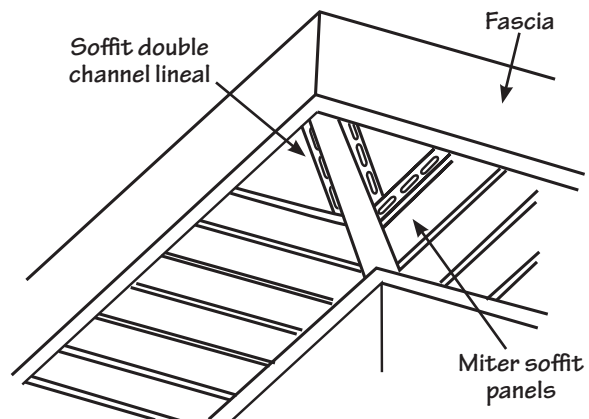

Figure 69.
4. To turn a corner, measure from the channel at the wall corner to the channel at the corner of the fascia board (Fig. 69). Subtract 1/4" (6.4mm) for expansion. Cut and install soffit double channel lineal or back-to-back J-channel. If necessary, install nailing strips to provide backing for the lineal. Miter cut the corner soffit panels and install as described in Step 3.